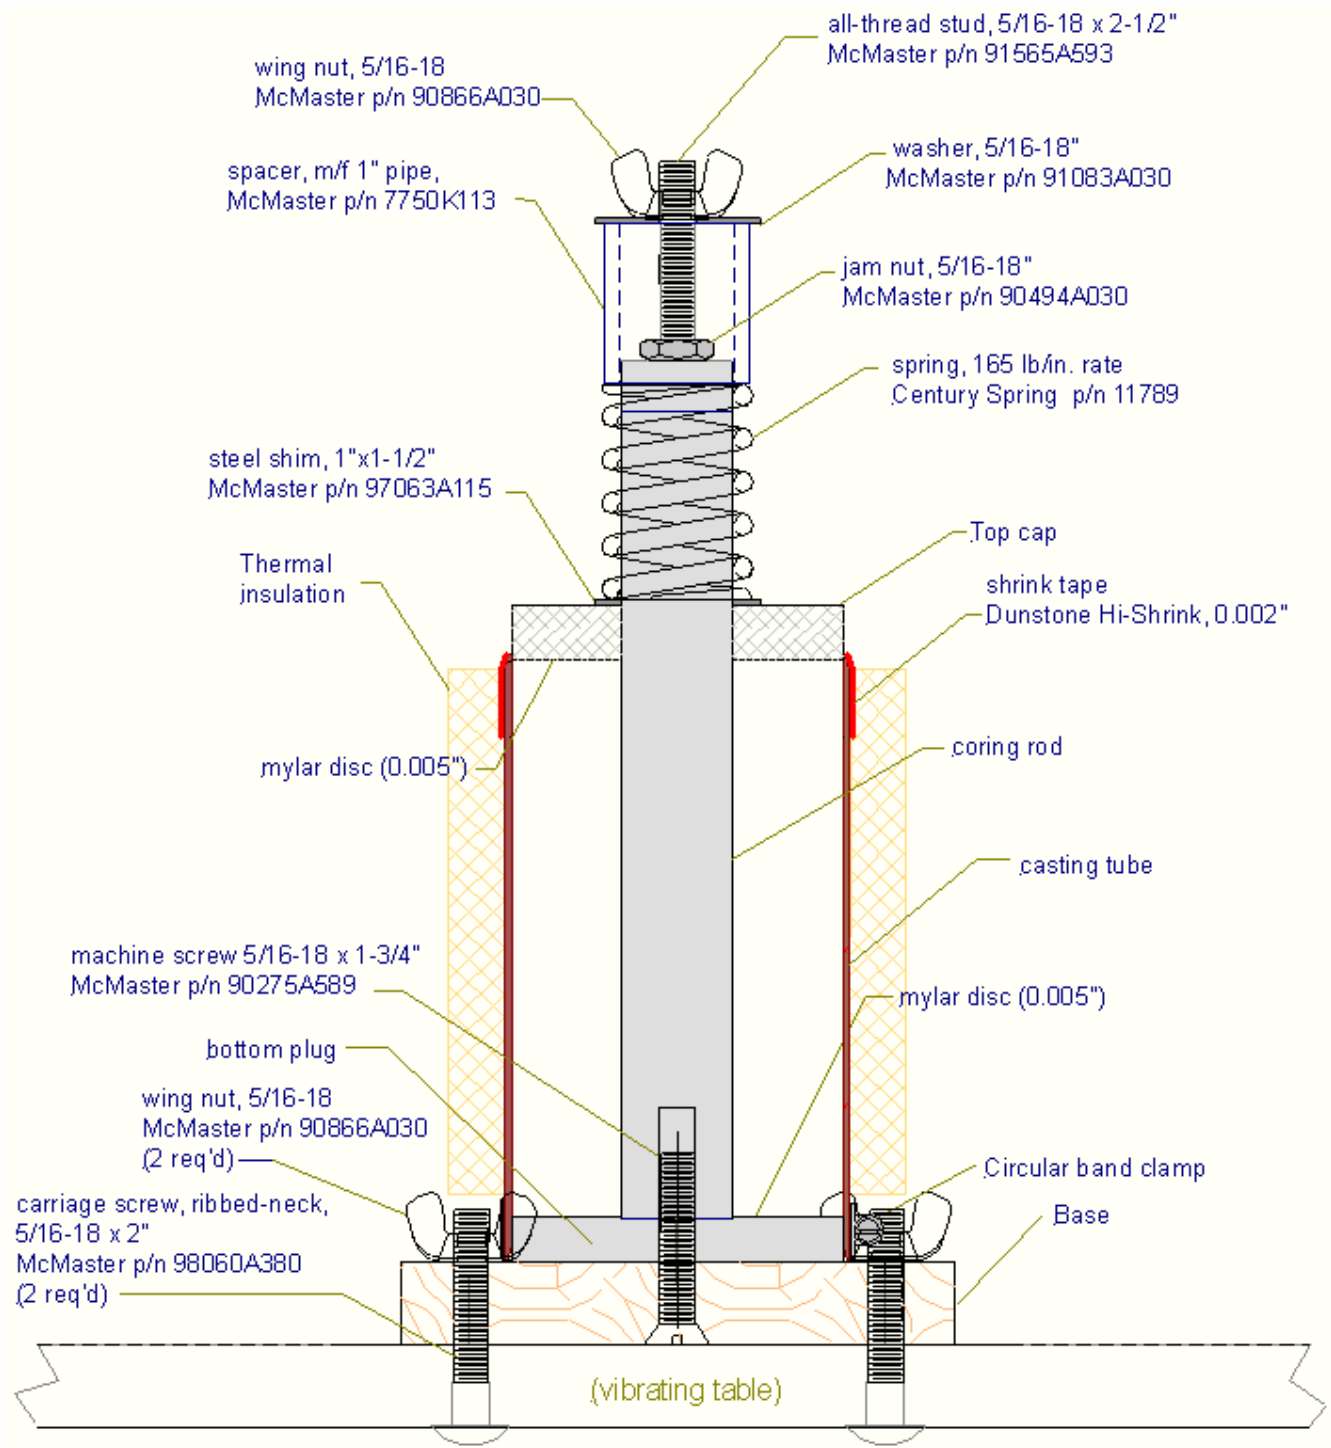

Figure 2 – Casting mould arrangement.
15. As is shown in Figure 2, place steel shim, spring and spacer over coring rod. Loosely install washer and wing nut.